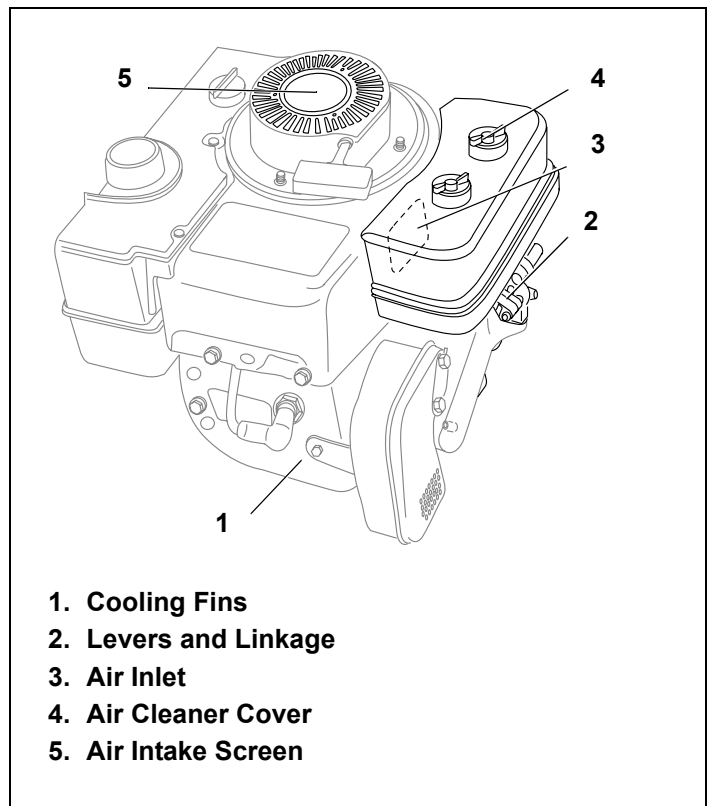

Figure 15. Debris Locations
Removing debris will insure adequate cooling, correct engine speed and reduce the risk of fire. See Figure 15.
Before removing air cleaner cover see "III. Filter Removal/Installation" instructions on page 11. Special care should be taken to prevent damage when removing air cleaner cover. See Figure 15.
1. Remove Air Cleaner Cover and filters. See Figure 15.